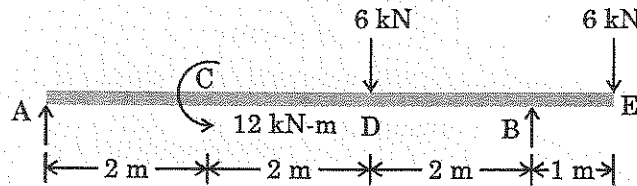

Fig. Q. 12(a)
12. (a) A beam is loaded as shown in Fig. Q. 12(a). Construct the shear force and bending moments diagrams for the beam and mark the values of the important ordinates.